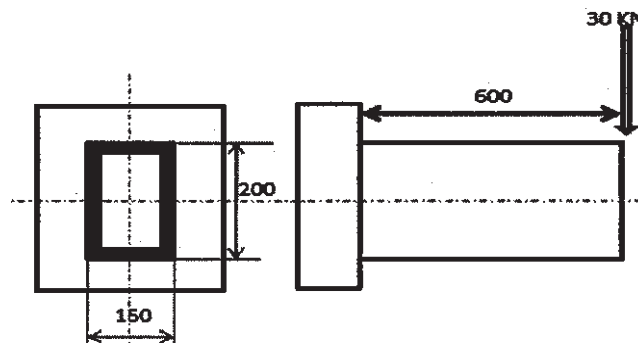

Fig. 1
b) A rectangular cross section is welded to a support by means of fillet weld as shown in fig.1. Determine size of the welds, if permissible shear stress in weld is limited to 60 N/mm². [6]